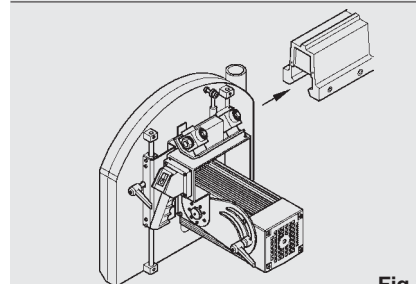

Fig.8
- Drive locking knob (13) home as shown in fig. 8.
- Slide the Carriage-Fork-Motor assembly into the slideways, trying to avoid shocks or jolts capable of affecting the adjustment of the bearings (fig. 8). The assembly was tested by our Quality Dept.